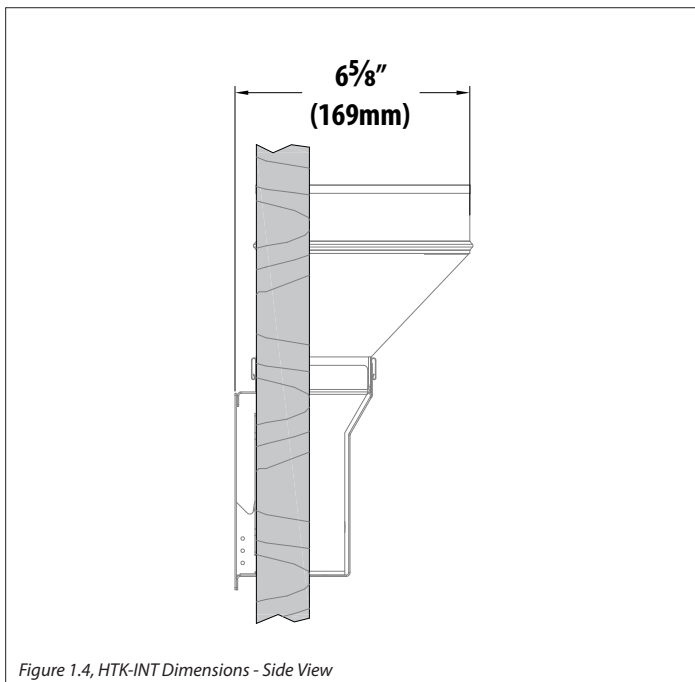

Figure 1.4, HTK-INT Dimensions - Side View
- Figure 1.4 shows the depth of the boot.